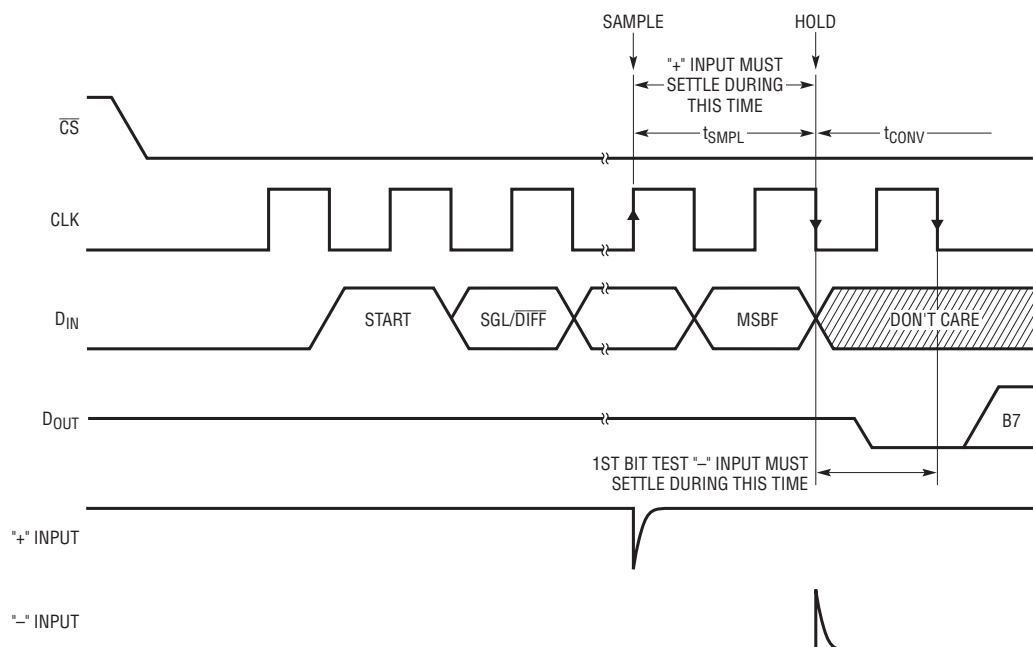

Figure 7. LTC1098(L) “+” and “-” Input Settling Windows
Both the LTC1096(L) and the LTC1098(L) provide a built-in sample-and-hold (S&H) function to acquire signals. The S&H of the LTC1096(L) acquires input signals from “+” input relative to “-” input during the t_{WAKEUP} time (see Figure 1). However, the S&H of the LTC1098(L) can sample input signals in the single-ended mode or in the differential inputs during the t_{SMPL} time (see Figure 7).
The sample-and-hold of the LTC1098(L) allows conversion of rapidly varying signals. The input voltage is sampled during the t_{SMPL} time as shown in Figure 7. The sampling interval begins as the bit preceding the MSBF bit is shifted
The input capacitor of the LTC1096(L) is switched onto “+” input during the wake-up time (see Figure 1) and samples the input signal within that time. However, the input capacitor of the LTC1098(L) is switched onto “+” input during the sample phase (t_{SMPL} , see Figure 7). The sample phase is 1.5 CLK cycles before conversion starts. The voltage on the “+” input must settle completely within
When driving the analog inputs with an op amp it is important that the op amp settle within the allowed time (see Figure 7). Again, the “+” and “–” input sampling times can be extended as described above to accommodate slower op amps. Most op amps, including the LT1006 and LT1413 single supply op amps, can be made to settle well even with the minimum settling windows of 3 μ s (“+” input) which occur at the maximum clock rate of 500kHz.